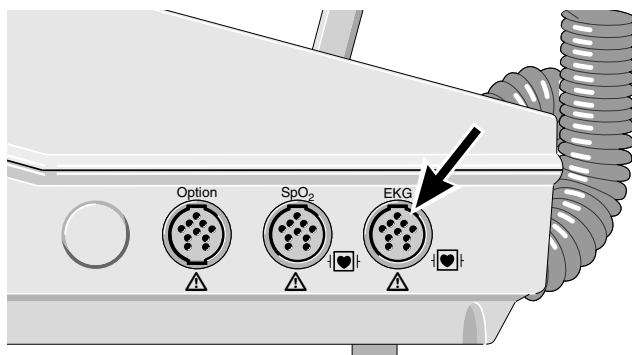

Figure 6-2. ECG signal input
- * Connect the patient cable to the electrodes and to the ECG signal input (Figure 6-2).